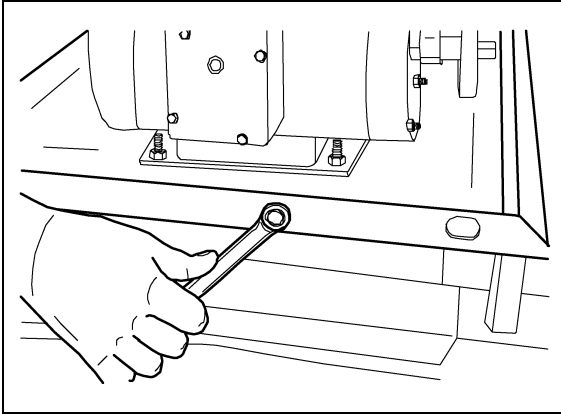

Figure 4N
- Next, place the A-31 belt onto the pulleys. Tighten the belt to its proper tension of 3/8" deflection at ten pounds of pressure by turning the 3/8" cap screw as shown in \(See Figure 4N\). Tighten the four 5/16" nuts on the motor base. Replace the belt shield.